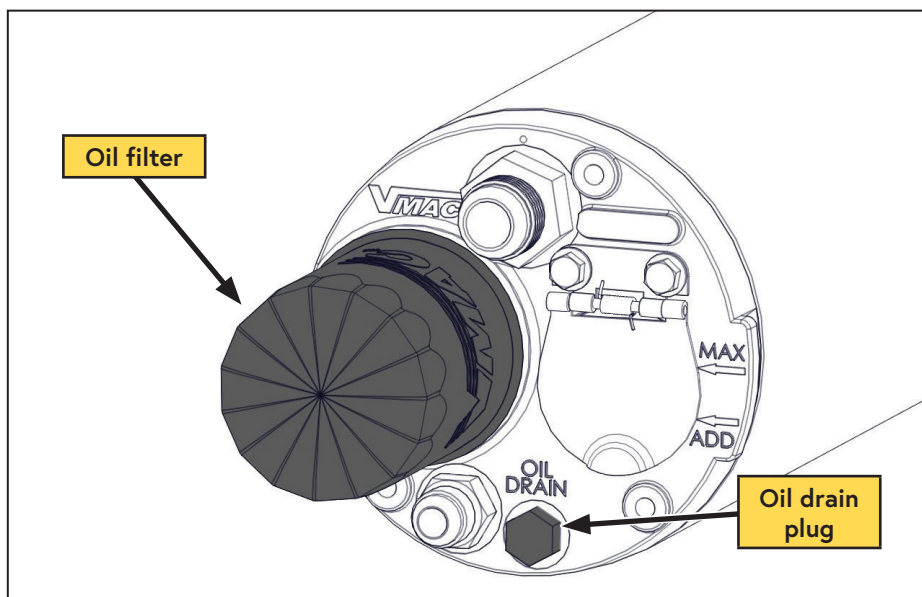

Figure 34 — Compressor oil filter
- ☐ Remove the oil drain plug and drain the oil into a container with a capacity of at least 5 L (1.3 USG) (Figure 34).
- ☐ Remove the oil filter (Figure 34).